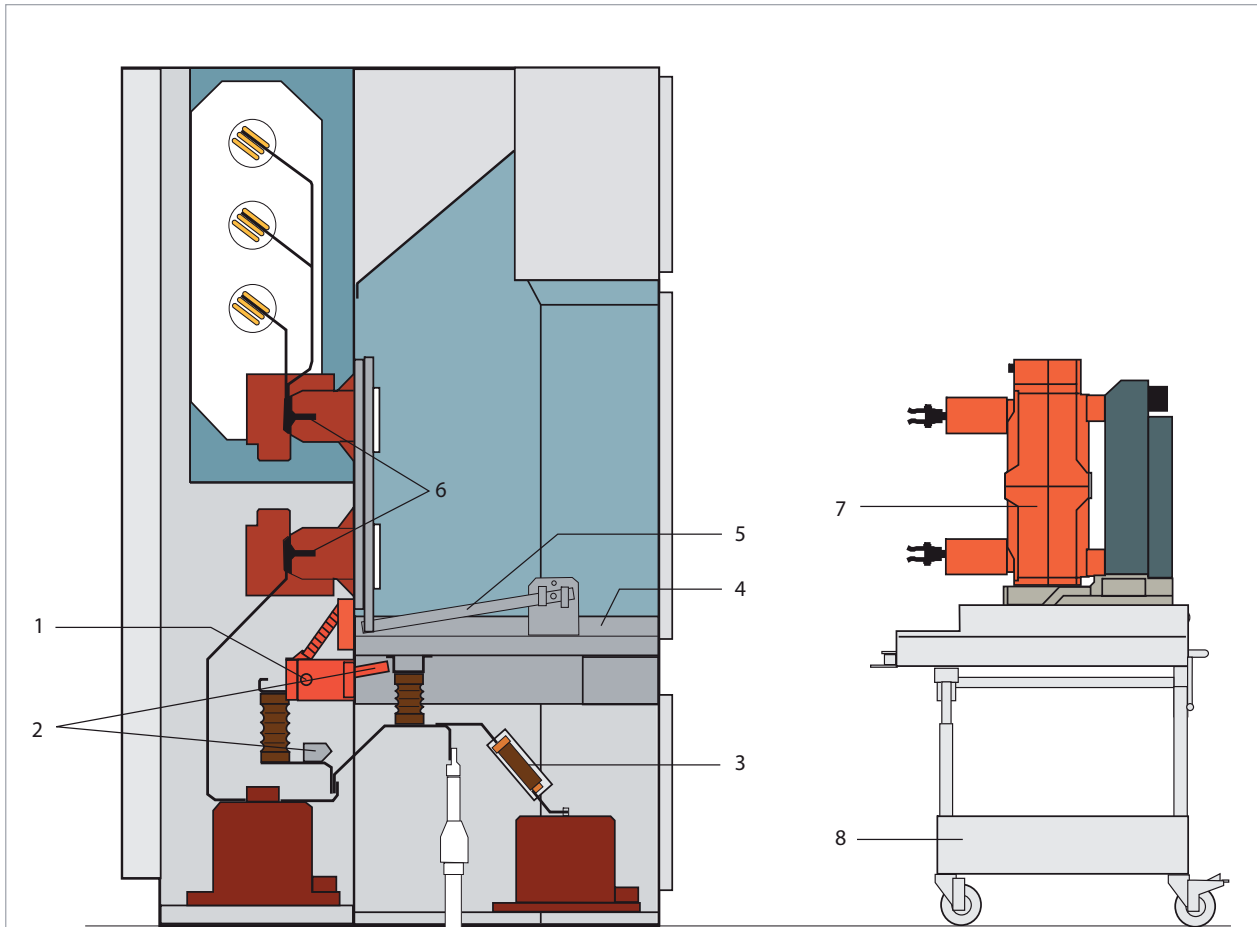

Fig. 11.2
- Pull fuse (Fig. 11.2, item 3) carefully out of the clamping contact. Check contact surfaces for cleanness and, if necessary, clean (see section 11.3).